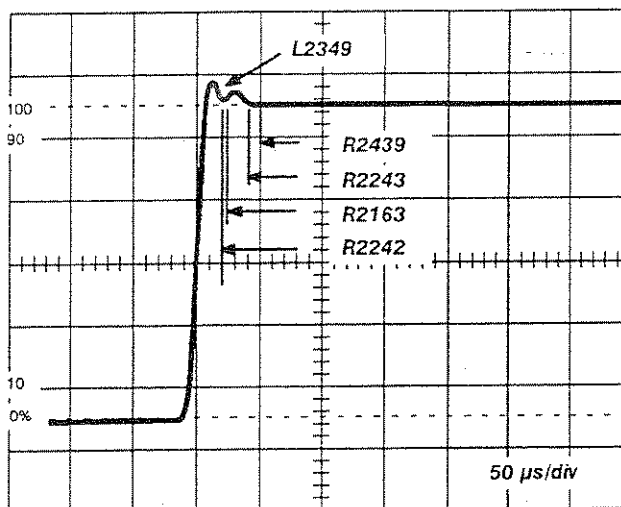

Figure 5-3: Portions of waveform affected by mid-frequency adjustments.
- i. Adjust R2439 (R2939) and R2163 (R2862) for a flat-topped square wave. R2439 (R2939) affects the first 50 μs of the pulse. R2163 (R2862) affects the first 25 μs of the pulse. Readjustment of C4040 (part 2e) may be necessary at this point for the best overall leveling of the square wave. See figure 5-3.
- j. Adjust R2242 (R2742), R2243 (R2743), and L2349 (L2849) for the squarest waveform corner. R2242 (R2742) affects the first 20 μs; R2243 (R2743) affects the first 40 μs; L2349 (L2849) affects the bottom of the dip at 30 μs. See figure 5-3.